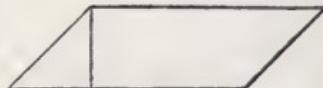

FIG. 18.
**40.** A **rhomboid** (Fig. 18) is a parallelogram whose opposite sides are equal and parallel, and whose angles are not right angles.
**43.** The **altitude** of a parallelogram or a trapezoid is the perpendicular distance between the parallel lines, as shown by the vertical lines in Figs. 18, 19, and 20.